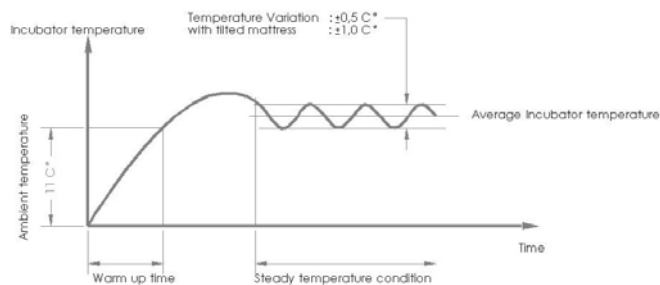

Figure 24: Temperature Profile
It is the expectation that the temperature profile in the infant incubator will generally follow the graph as shown in Figure 24. The first component of the profile is called the **Warm Up Time, (WT)** and the test requirements are defined in the Standard [clause 201.12.1.107].